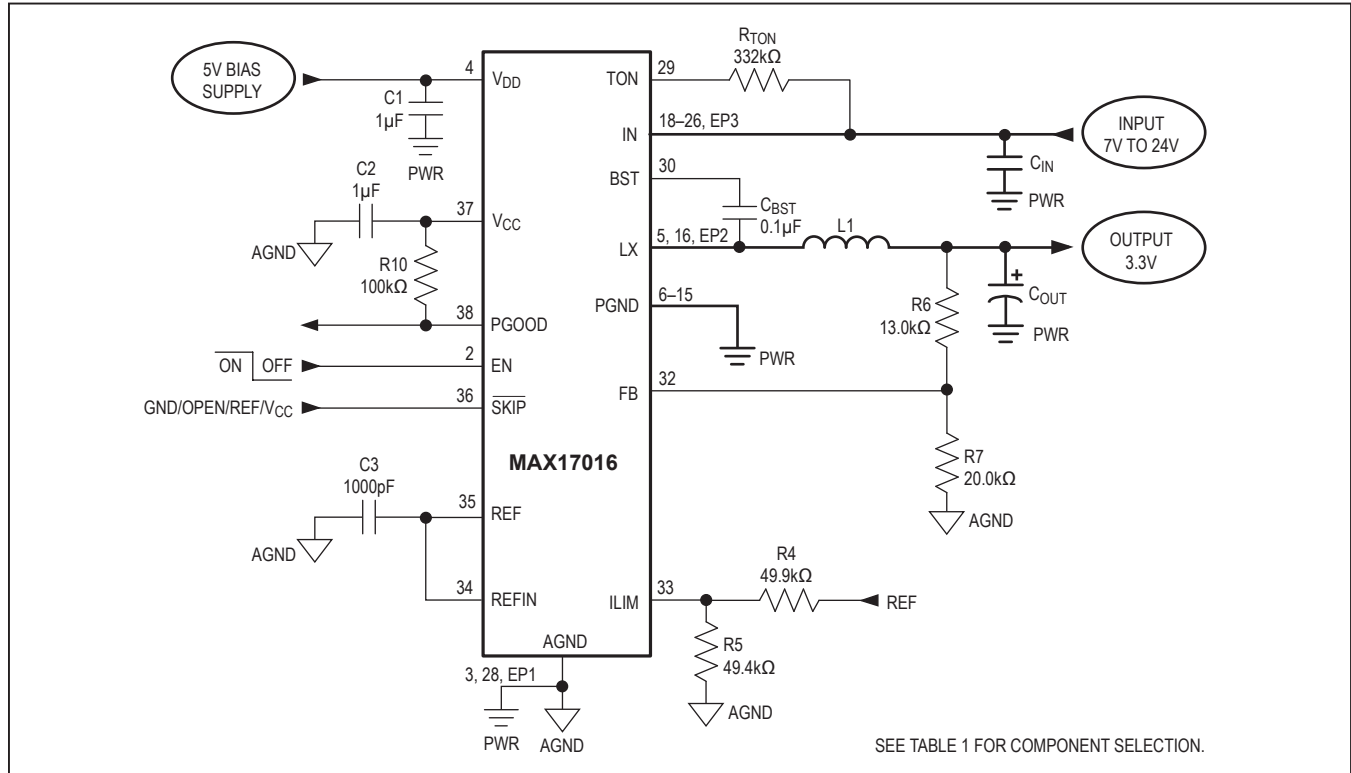

Figure 6. High Output-Voltage Application Using a Feedback Divider
Although REFIN is limited to a 0 to 2V range, the output-voltage range is unlimited since the MAX17016 utilizes a high-impedance feedback input (FB). By adding a resistive voltage-divider from the output to FB to analog ground (Figure 6), the MAX17016 supports output voltages above 2V. However, the controller also uses FB to determine the on-time, so the voltage-divider influences the actual switching frequency, as detailed in the On-Time One-Shot section.